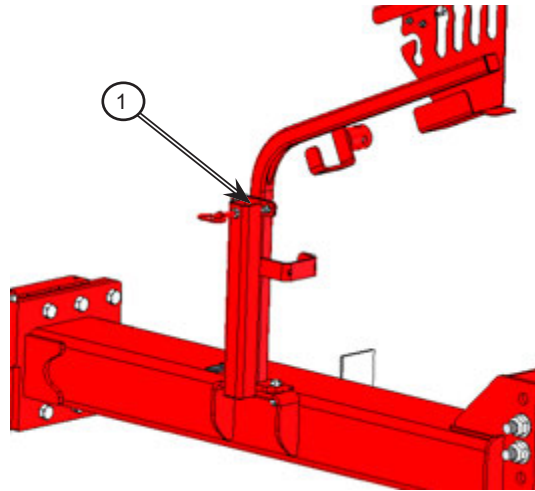

Figure 5.14: Pry bar holder
- a. A pry bar can be stored in the pry bar holder (1) that is mounted to the hose holder; see Figure 5.14.